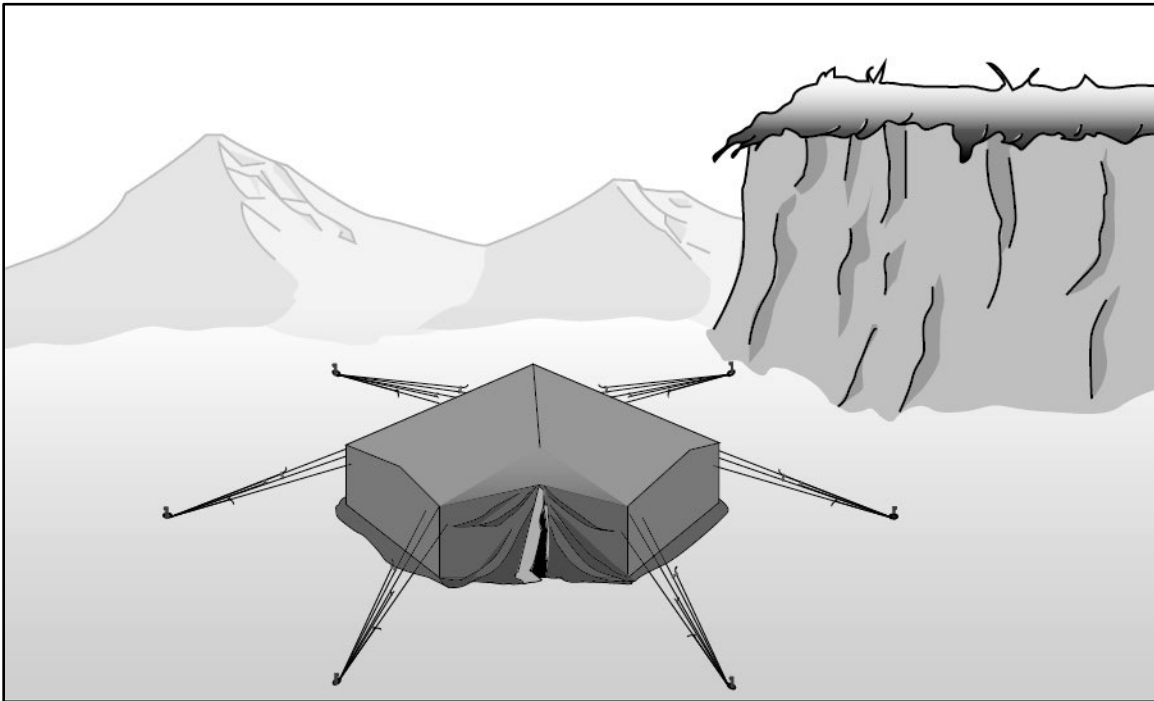
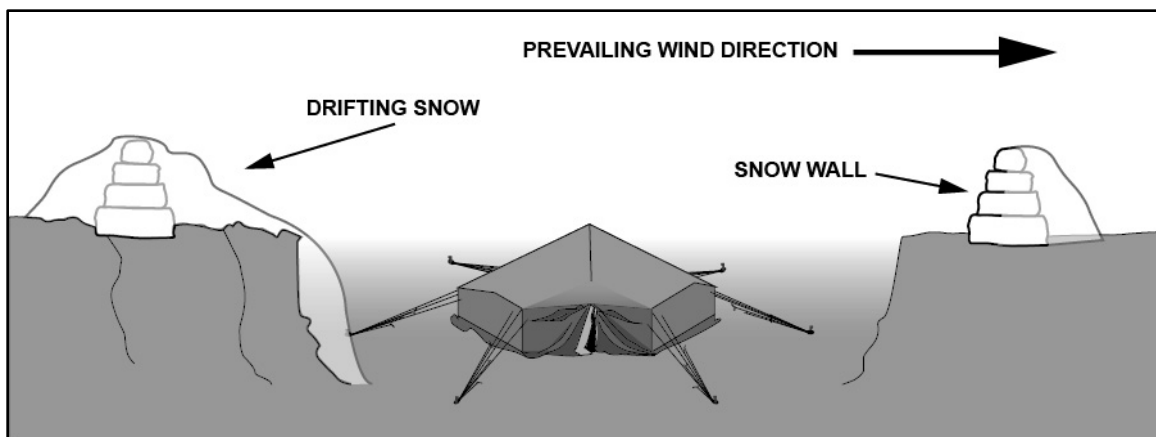

Figure 5-1. Location of tent (1)
Figure 5-2. Location of tent (2)
5-10. Open country (tundra) presents difficulties such as poor cover and concealment, exposure to high winds, and drifting snow. (See figure 5-1 on page 59.) If establishing a patrol base in open areas, tents should be pitched (or shelters constructed) in the lee of natural windbreaks such as depressions or the downwind side of eskers, ridges, and hills. Where no natural windbreaks exist, dig tents into the snow as deeply as possible or construct windbreaks with snow or blocks of snow. (See figure 5-2 on page 59.)
- Look for the prevailing wind direction by observing the drift patterns around trees or rocks (see figures 5-1 and 5-2):